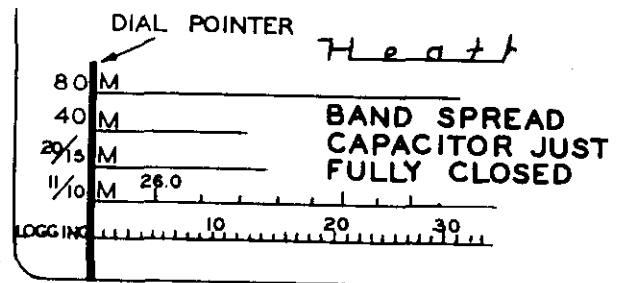

Figure 31
- (✓) Loosen the setscrew in the bandspread dial string pulley. Rotate the bandspread knob until the dial pointer is aligned with the vertical line on the left end of the calibrated bandspread portion of the dial as shown in Figure 31. Now rotate the bandspread capacitor shaft until it is at full mesh. Now tighten the setscrew.